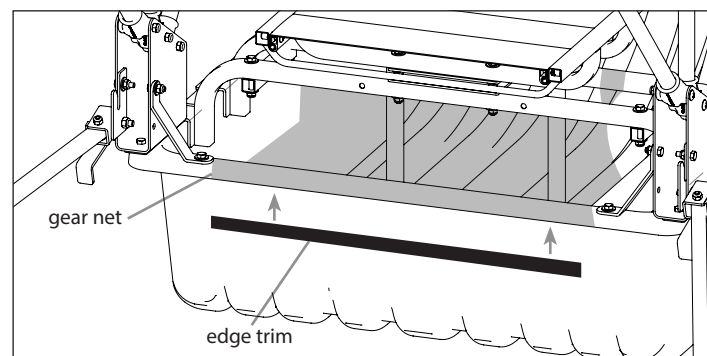

FIGURE 12
20. To install the gear net (15596) to the sled attach the hook and loop retainers to the rear seat rail (15033). After attaching the gear net to the seat rails, locate the 24 inch piece of edge trim along with the remaining edge trim screws used earlier. Secure the gear net by attaching it to the front of the sled lip with the edge trim and edge trim screws. **SEE FIGURE 12 ON PREVIOUS PAGE**